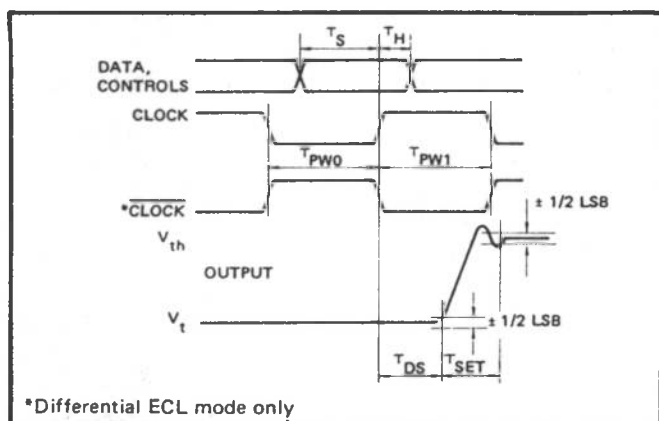

Figure 1. Timing Diagram
2. CUT GROUND PLANE ACCORDING TO ASSEMBLERS LAYOUT FIG. 1